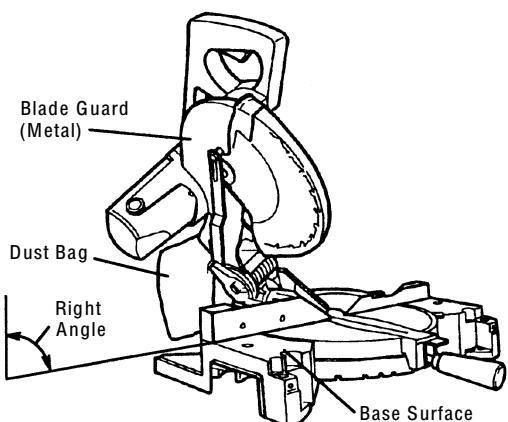

Fig. 35
(1) When the dust bag has become full of sawdust, dust will be blown out of the dust bag when the saw blade rotates. Check the dust bag periodically and empty it before it becomes full.
(2) During bevel and compound cutting, attach the dust bag at a right angle to the base surface as shown in Fig. 35.